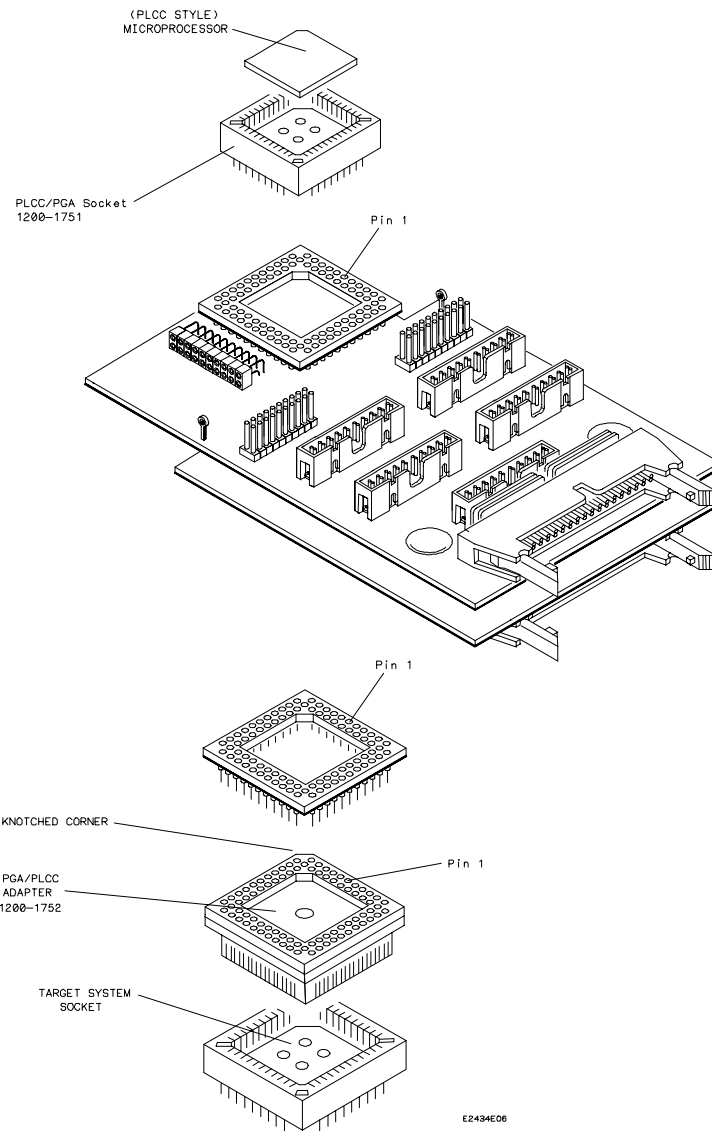

Figure 1-3. Connecting to a PLCC Socket
3. Noting the position of pin 1, place the PGA to PLCC Adapter in the microprocessor socket on the target system (see figure 1-3).
3. Note the position of pin 1, and install the PLCC to PGA Socket in the PGA socket on the top of the preprocessor interface. Then install the PLCC-style 80C186EB microprocessor in the PLCC socket, ensuring that pin 1 is properly aligned (see figure 1-3). The PLCC to PGA Adapter adds capacitance to the circuit, but should not affect microprocessor performance.